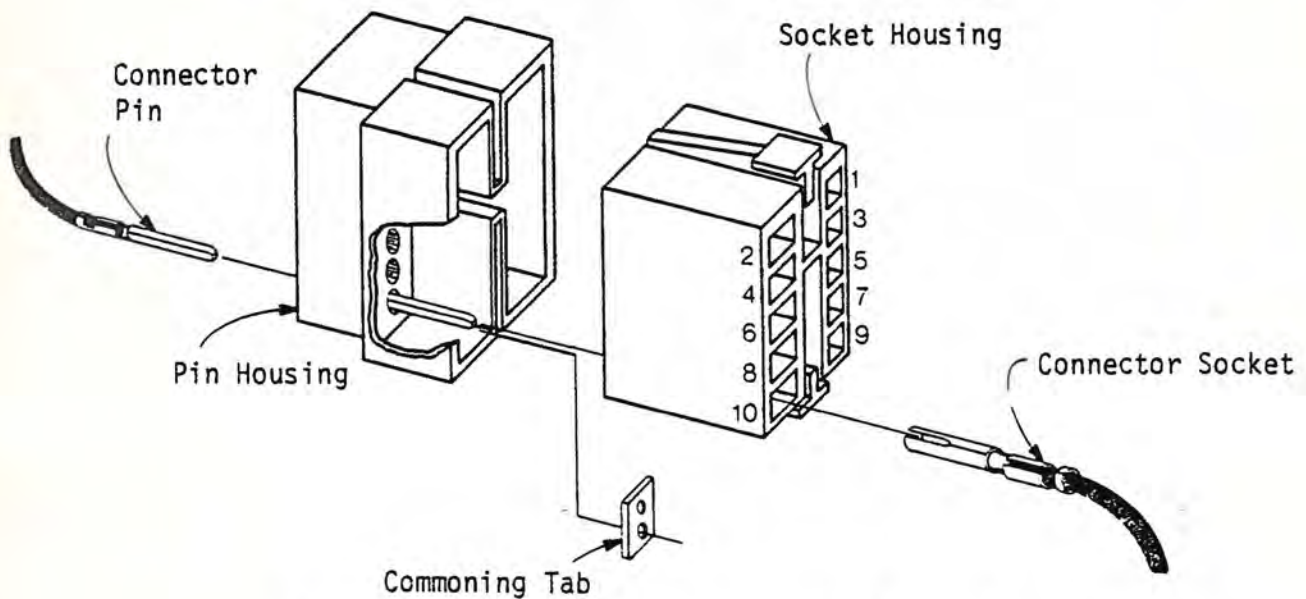

Figure 5-52b Pin and Socket Housing Assembly
3. Insert the pins and sockets into their respective housings as shown in Figure 5-52b.